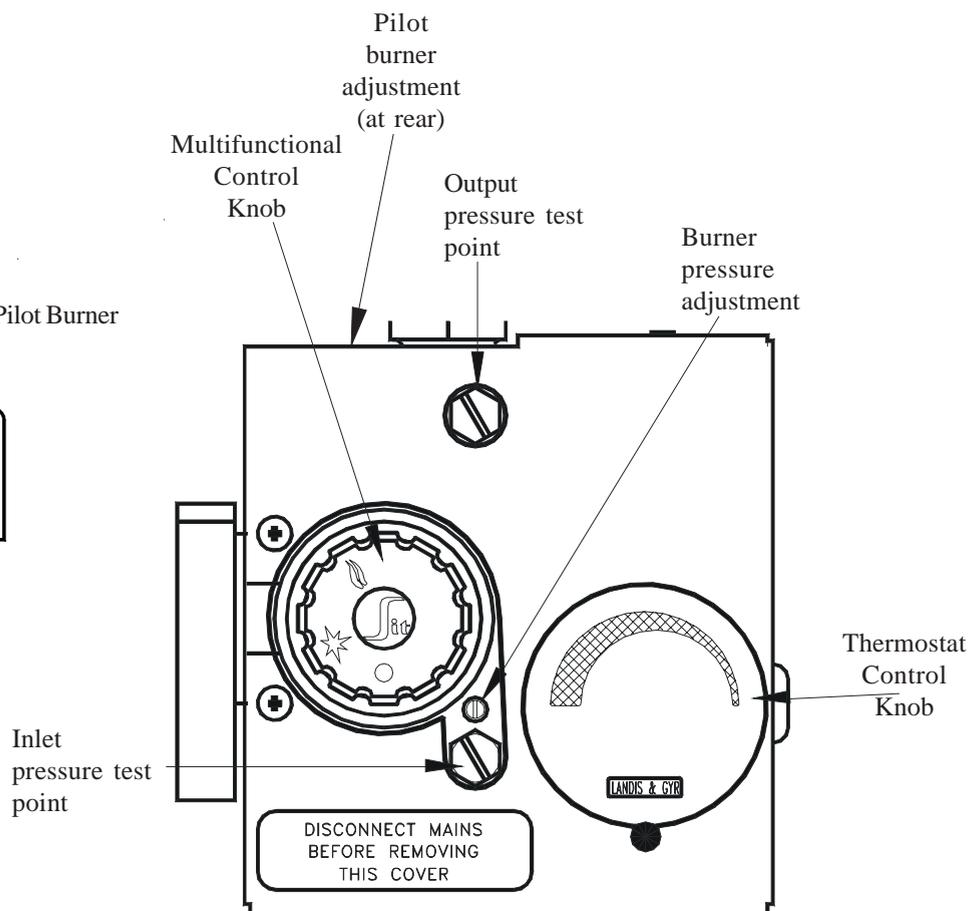

Fig. 4
5.3.1 Referring to Fig. 4, remove the Outlet Pressure Test Point cover from the Multifunctional control and connect a Gas Pressure Test Gauge.
5.3.7 Allow the appliance to operate for 15 minutes to ensure stability, and referring to Fig. 4 and Table 1, set the Multifunctional control burner Pressure Adjuster to provide the required output.